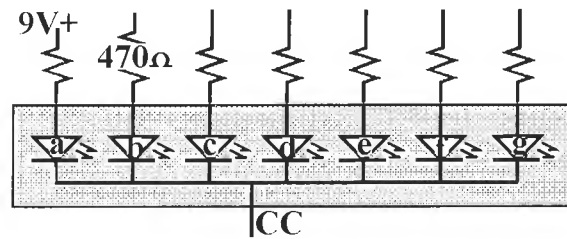

Figure L39-2
So you might have some seven-segment displays laying around. You try them out. They might work and they might not. That is because there are two major types of seven-segment displays, the CC and the CA. The type that is used here is referred to as a *common cathode* (CC). A proper schematic diagram for the CC is shown in Figure L39-2.